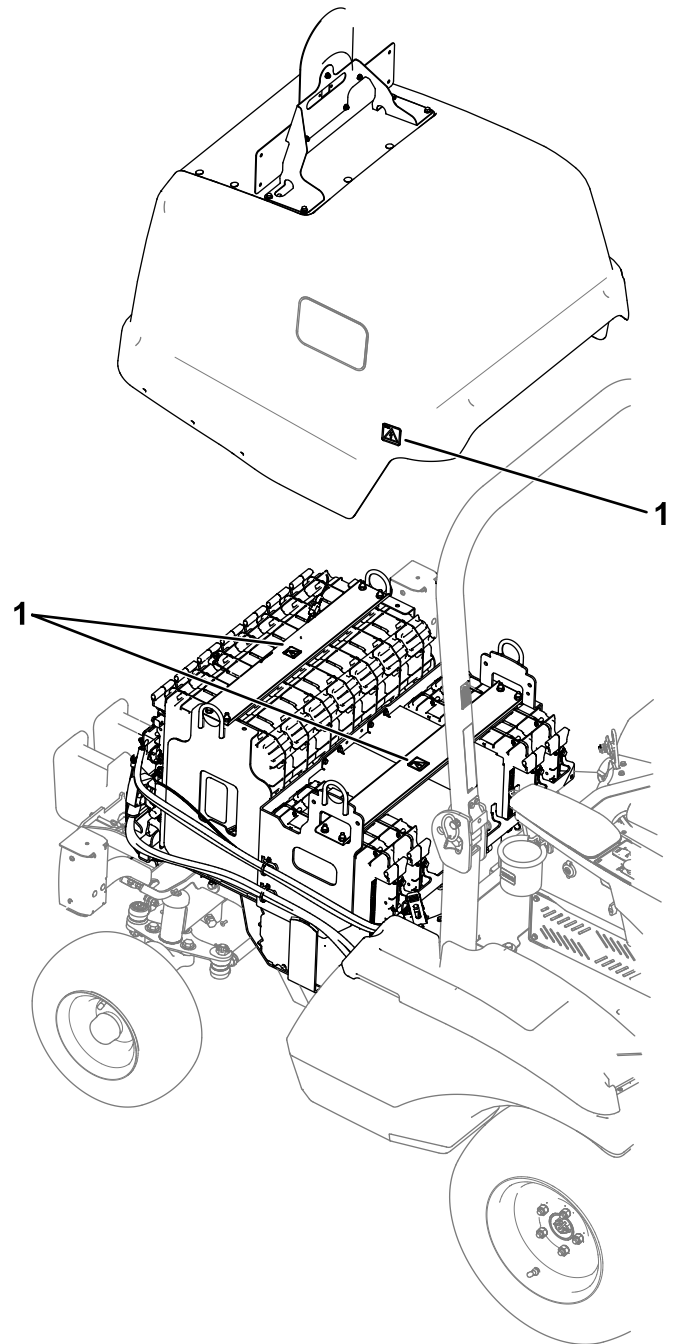
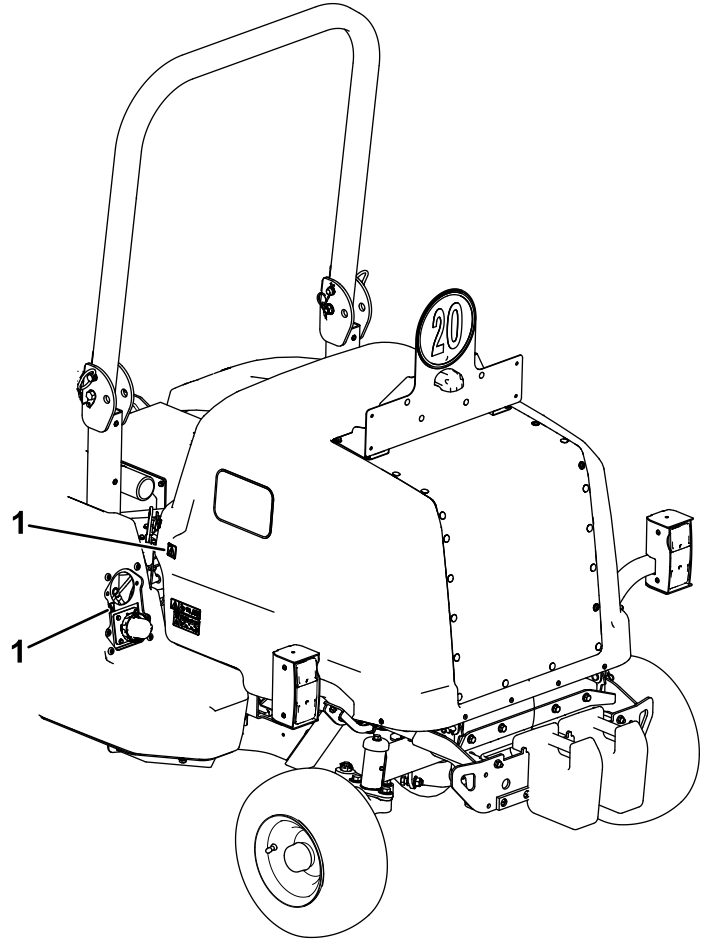

Figure 39
Figure 41
- Hood (Figure 39 and Figure 41)
- Charger port/power-disconnect switch (Figure 41)
- Channel supports in the battery compartment (Figure 39)